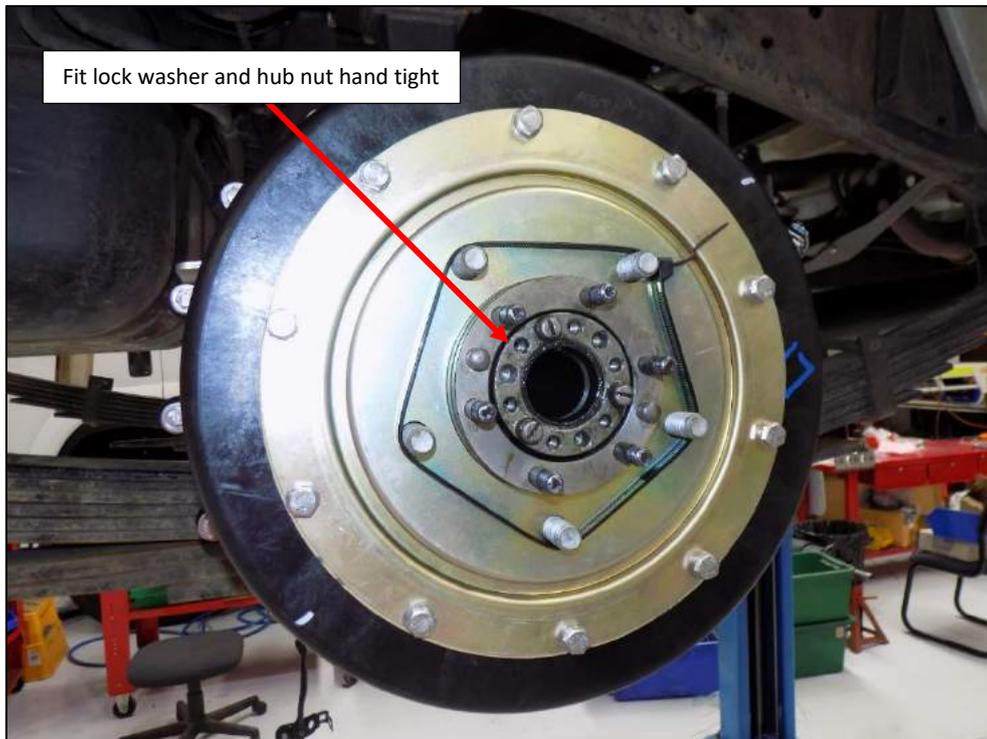

Figure 6
17. Fit the lock washer and hub nut then temporarily tighten the hub nut hand-tight (Figure 6). Do not adjust or fit the locking screws.